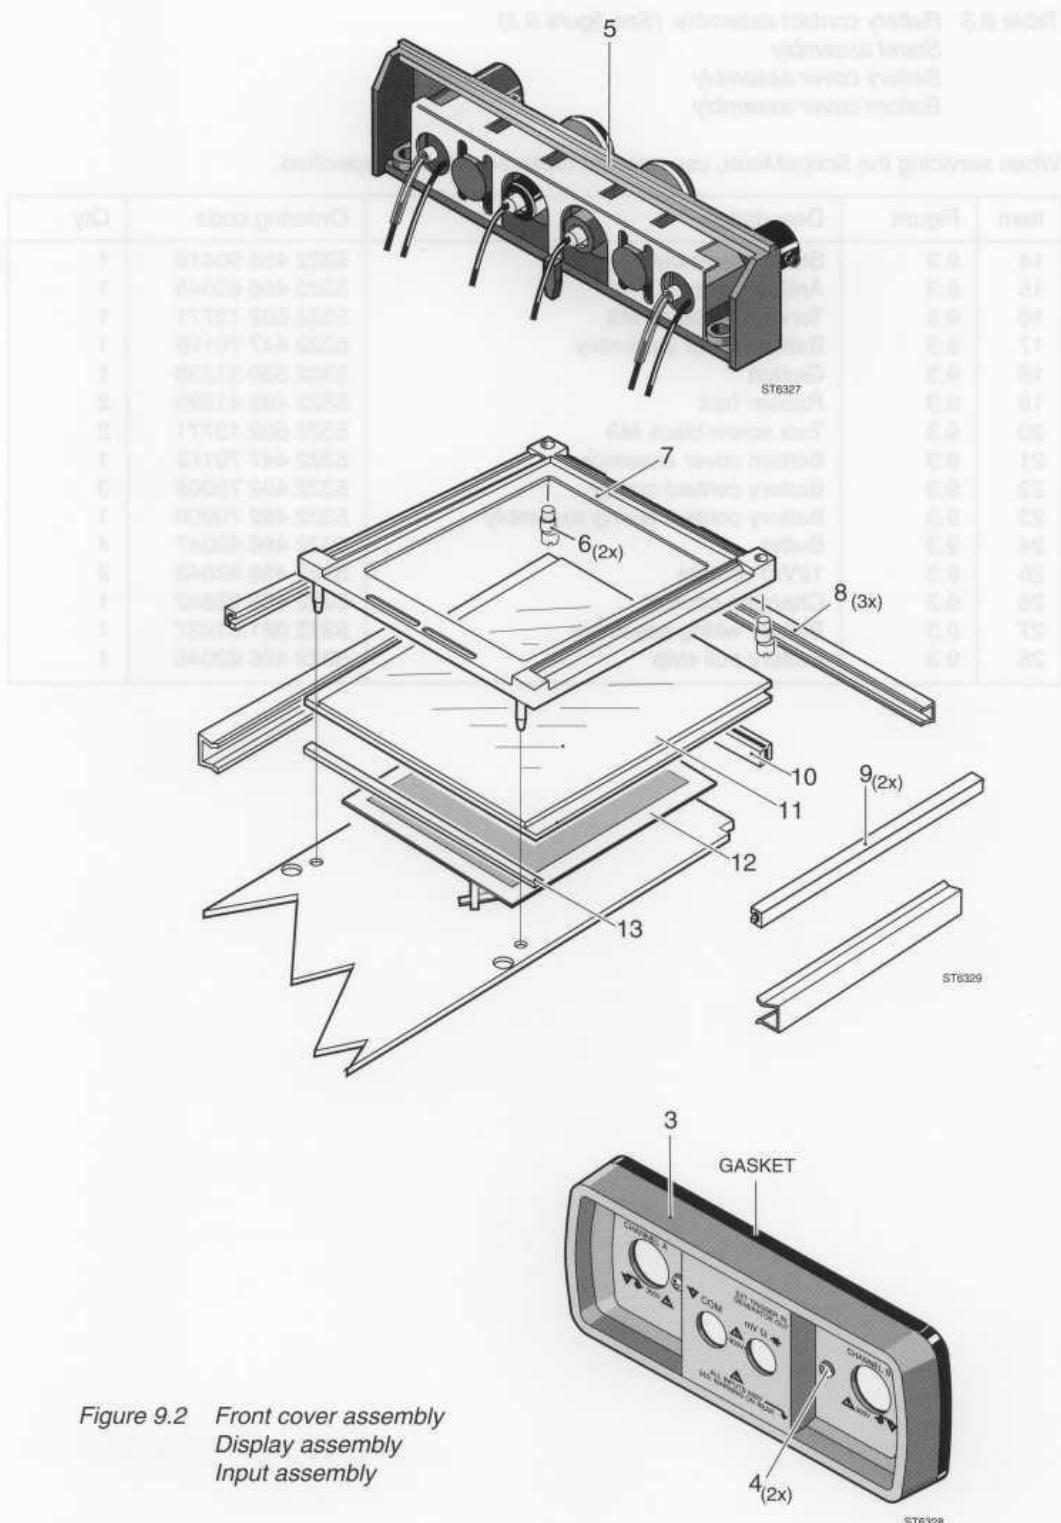

Figure 9.2 Front cover assembly
*Table 9.2 Front cover assembly (See figure 9.2)**Input unit assembly**Display assembly*